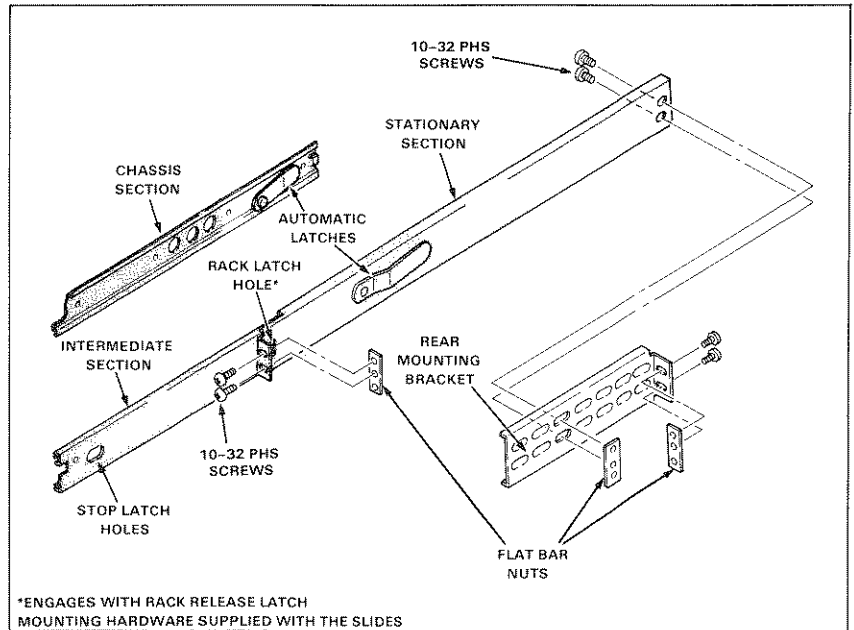
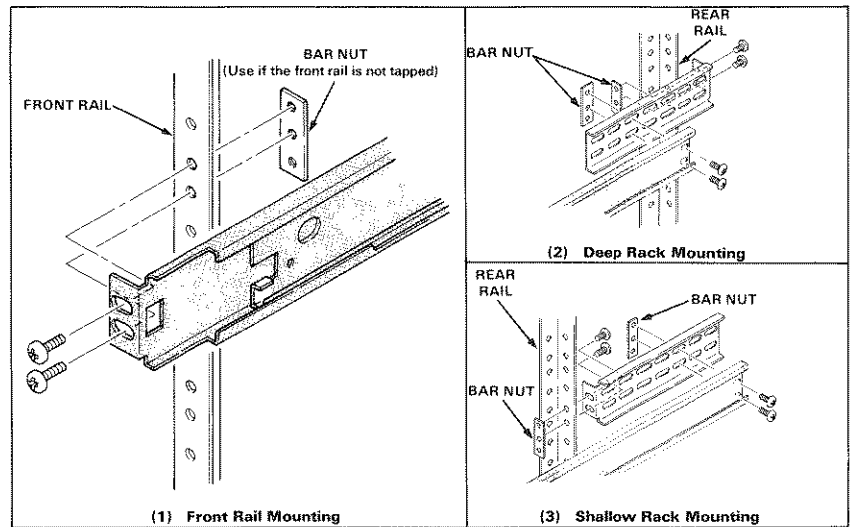

Figure 1-4. Rackmounting Hardware.
Figure 1-5. Mounting Stationary Rackmount Sections.
The slide-out tracks consist of two assemblies, one for each side of the instrument. Each assembly consists of three sections (see Fig. 1-4). The stationary section of each track attaches to rack rails as shown in Figure 1-5. The chassis section mounts on the instrument and is installed at the factory. The intermediate section fits between the other two sections, allowing the instrument to be fully extended out of the rack.
3. Mount the stationary-track sections to the rear rails, using one of the methods depicted in Figure 1-5. Note that the rear mounting bracket can be installed to fit either deep or shallow cabinet racks.